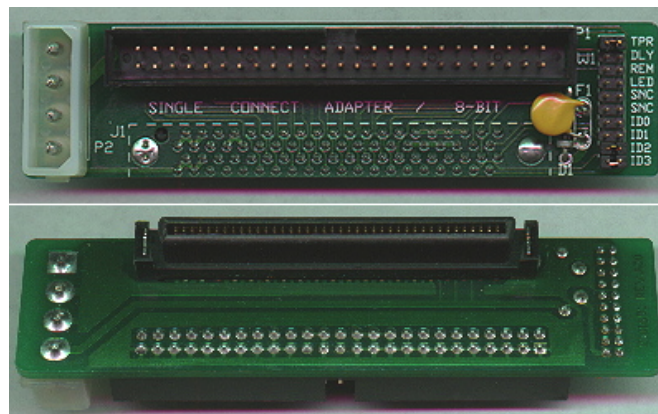
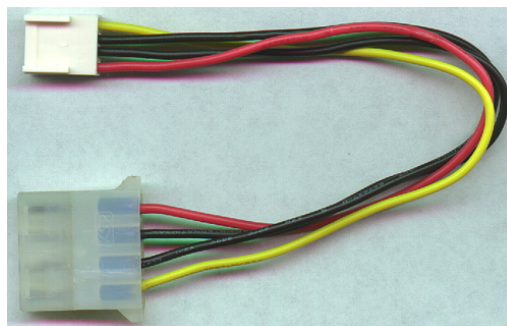

Figure 6. The SCA 80/50 SCSI adapter for option (B).
Figure 12. The power adapter used in step 9(B).
- 8) The Storigen ARC760-B has no setup jumpers and turns any IDE HD into an SCA 80-pin HD with 16 possible SCSI IDs instead of the usual 8. You must carefully remove the plastic frame of the white power connector that is shown with a yellow arrow in Figure 6 making sure to put minimal stress to the four pins so that you do not damage them. Then you plug in the 4-inch long power adapter that is shown in Figure 12. It can be found in older computers or in computer hardware stores. The two notches (and in some cases a locking pin) of the small floppy-type power connector must face you, not the board.
- (7) The SCA 80/50 SCSI adapter that is shown in Figure 6 must be plugged behind the Storigen board. If it is higher than 15/16" it will force the EX5R cover to put stress on it and this will create problems. Thus, make sure that you order a slim version of the SCA adapter. **The TPR and ID0 jumpers must be ON** giving the Digidrive a SCSI ID of "1". Finally plug in the power connector from step (7) in the SCA adapter and press everything firmly in place.